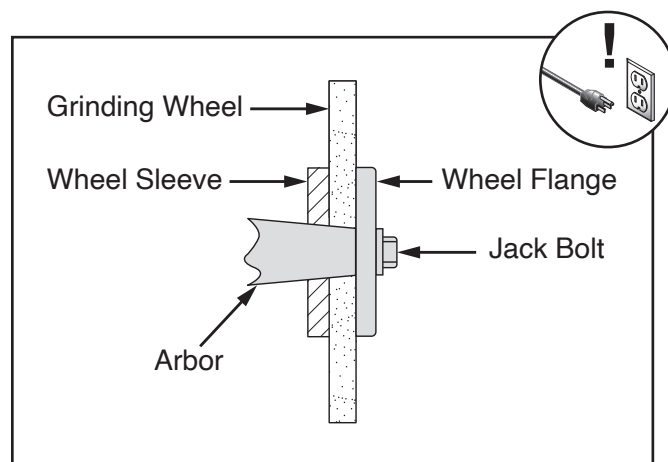

Figure 46. Jack bolt threaded into wheel assembly and arbor.
4. Thread jack bolt into wheel assembly (see **Figure 46**) and tighten to separate wheel assembly from arbor.